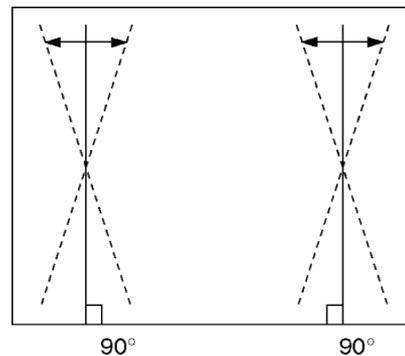

Fig. 4
4. Adjust the vertical line to straight line of both sides vertical line in Fig. 4 by Trapezoid (100i / 4:3).
4. Adjust the vertical line to straight line of both sides vertical line in Fig. 4 by Trapezoid (120i / 4:3).